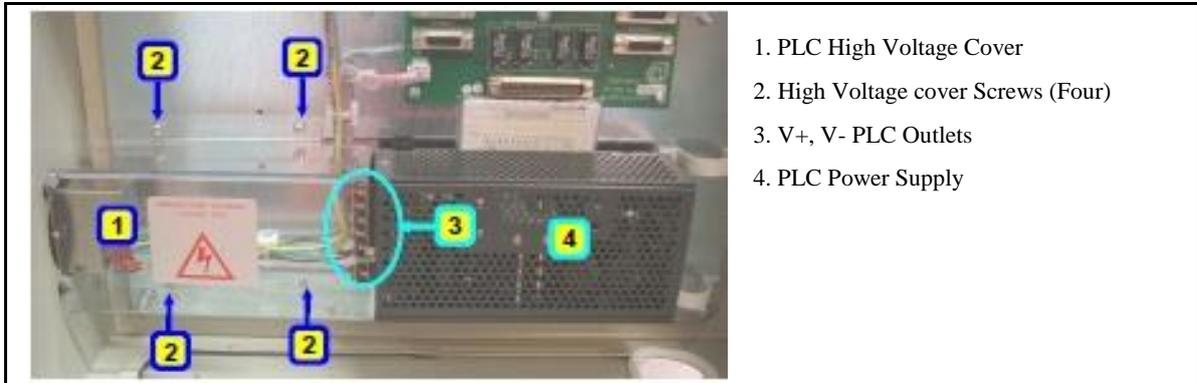

Figure 19: PLC Power Supply
1. Release the four screws securing the PLC High Voltage Cover to the PLC Power supply and remove the cover (see #2 in Figure 19).
3. Replace the PLC High Voltage Cover (#1 in Figure 19.)